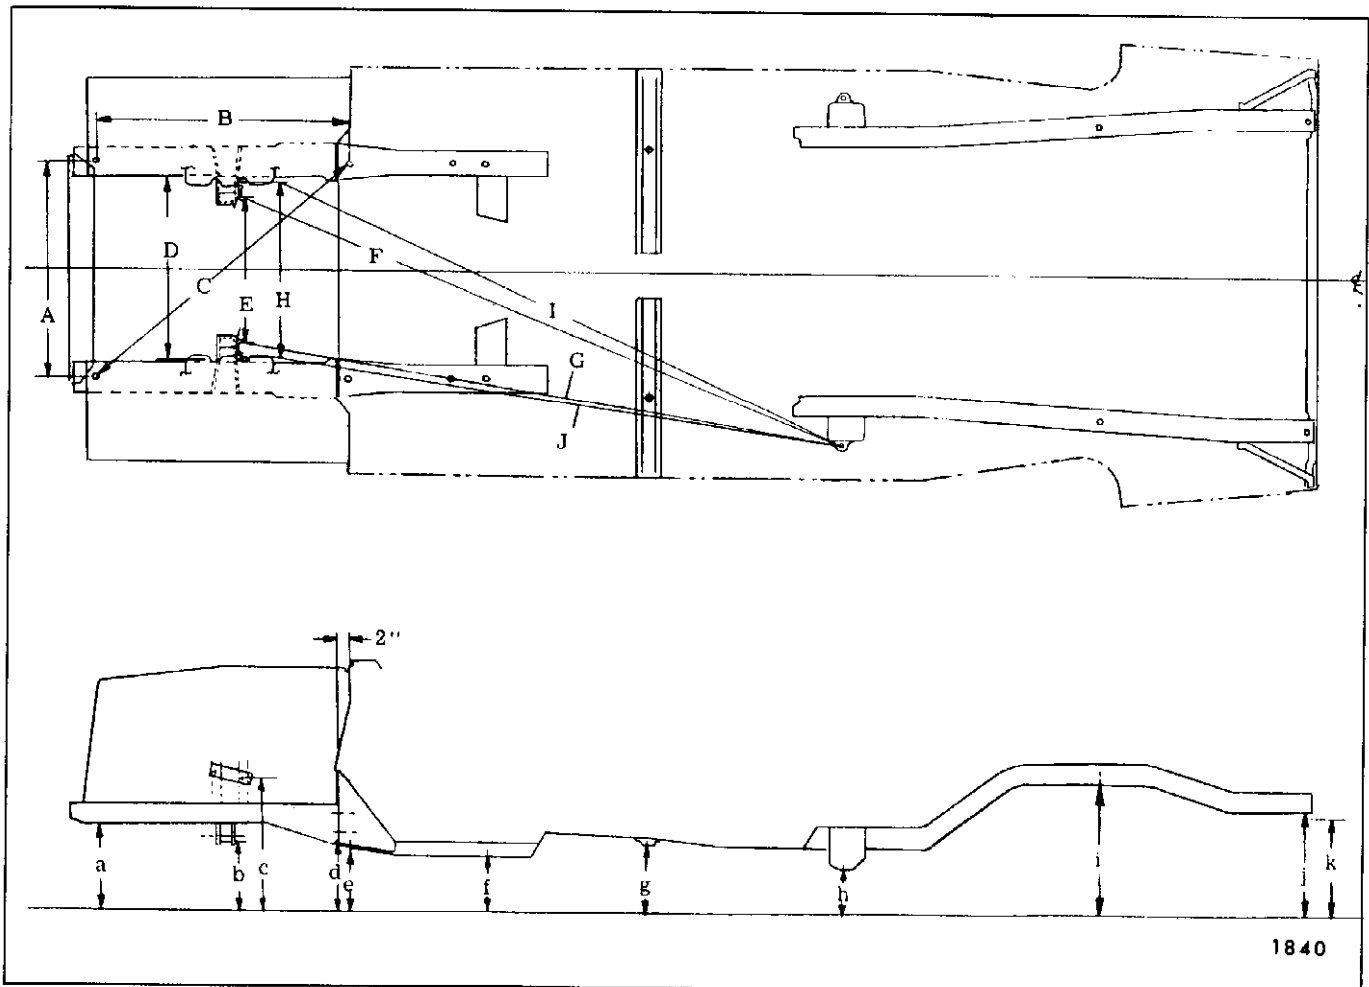
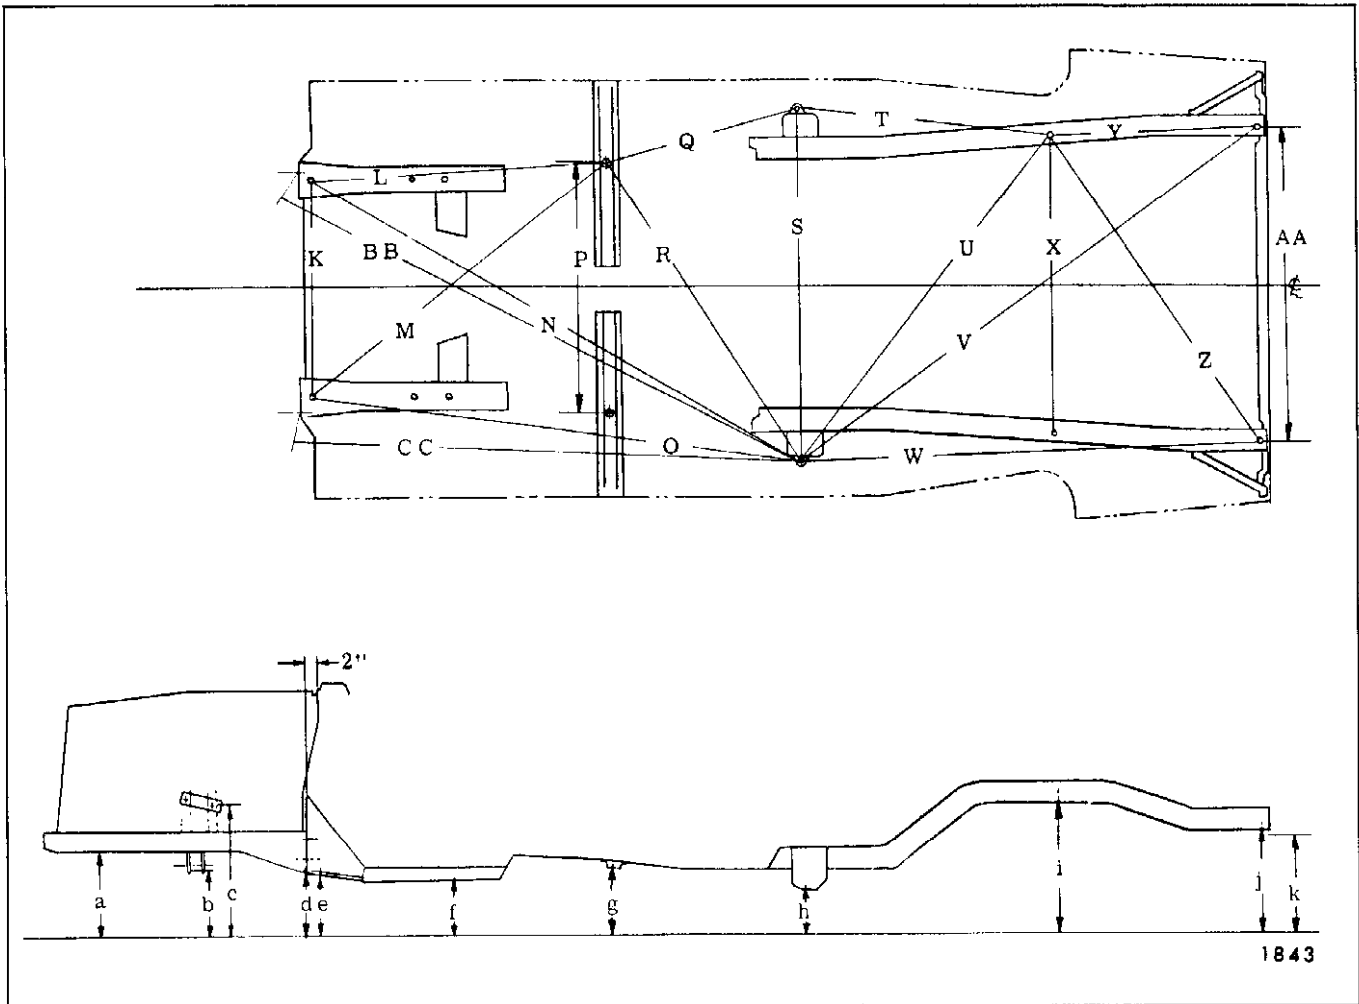

Fig. 3-7—Horizontal and Vertical Dimensions (Front Skirt Assembly)
Fig. 3-8—Horizontal and Vertical Dimensions (Body Assembly)
**CAUTION:** Do not change skirt assembly-to-dash shimming in an effort to adjust the door-to-fender gap or any other sheet metal appearance item. These shims regulate the front end assembly relationship to the body and should only be used to correct dimensions as shown in Figures 3-7 and 3-8.
Horizontal dimensions shown in the upper portion of Figures 3-7 and 3-8 are calculated on a plane parallel to the plane of the underbody. Precision
- b. The vertical dimension from the datum line to the points to be trammed. As an example, the diagonal measurement (calculated on a horizontal plane) between reference points of dimension line "N", shown in Figure 3-8, is 78 25/32 inches. The specifications from the datum line have a vertical height difference of 3 5/16 inches between the forward location of dimension "N" (at vertical dimension "e") and the rearward location of dimension "N" (at vertical dimension "h"). The vertical pointer used at the forward location should be positioned so as to extend 3 5/16 inches further from the tram bar than the pointer used at the rearward location. With the proper settings the tram bar will be on a plane parallel to that of the body plane. The exception to this would be when one of the reference locations is included in the misaligned area; then the parallel plane between the body and the tram bar may not prevail. After completion of the repairs, the tram gage should be set at the specified dimension to check the accuracy of the repair operation.
#### Underbody Alignment Reference Point Dimensions (Figures 3-7, 3-8, and 3-9)
Figure 3-7 specifies dimension reference locations required for alignment of front end skirt assembly and for alignment of front end skirt assembly to body assembly. Figure 3-8 specifies
(See Figure 3-8 and 3-7)**